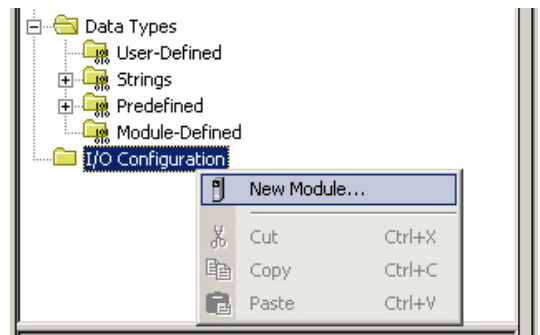

Figure 4.1 Defining a Bridge Module
- 1) Insert a bridge module into the I/O Configuration tree. As shown in figure 4.1 on the right, right click on the I/O Configuration folder and select "New Module..." in the pop-up menu.